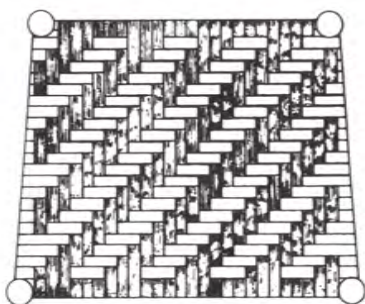
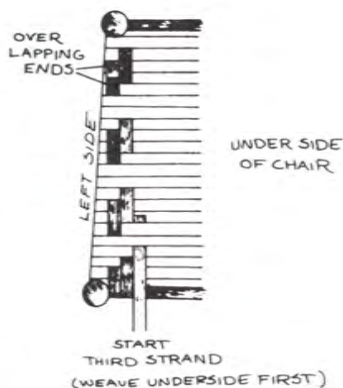

fig. 27
fig. 28
13. Weave the other end of the strand over three and under three on the top of the seat until you reach the back rail. Go over the back rail and continue to weave the pattern as shown in Figure 27. When you come to the end of the splint strip, cut it to end right behind the front rail on the bottom of the chair. Figure 28.
To add a new length of splint, weave it from the front rail to the back rail directly on top of the previous piece. This overlapping will keep both ends firmly in place. Follow Figure 27 for the rest of the pattern.